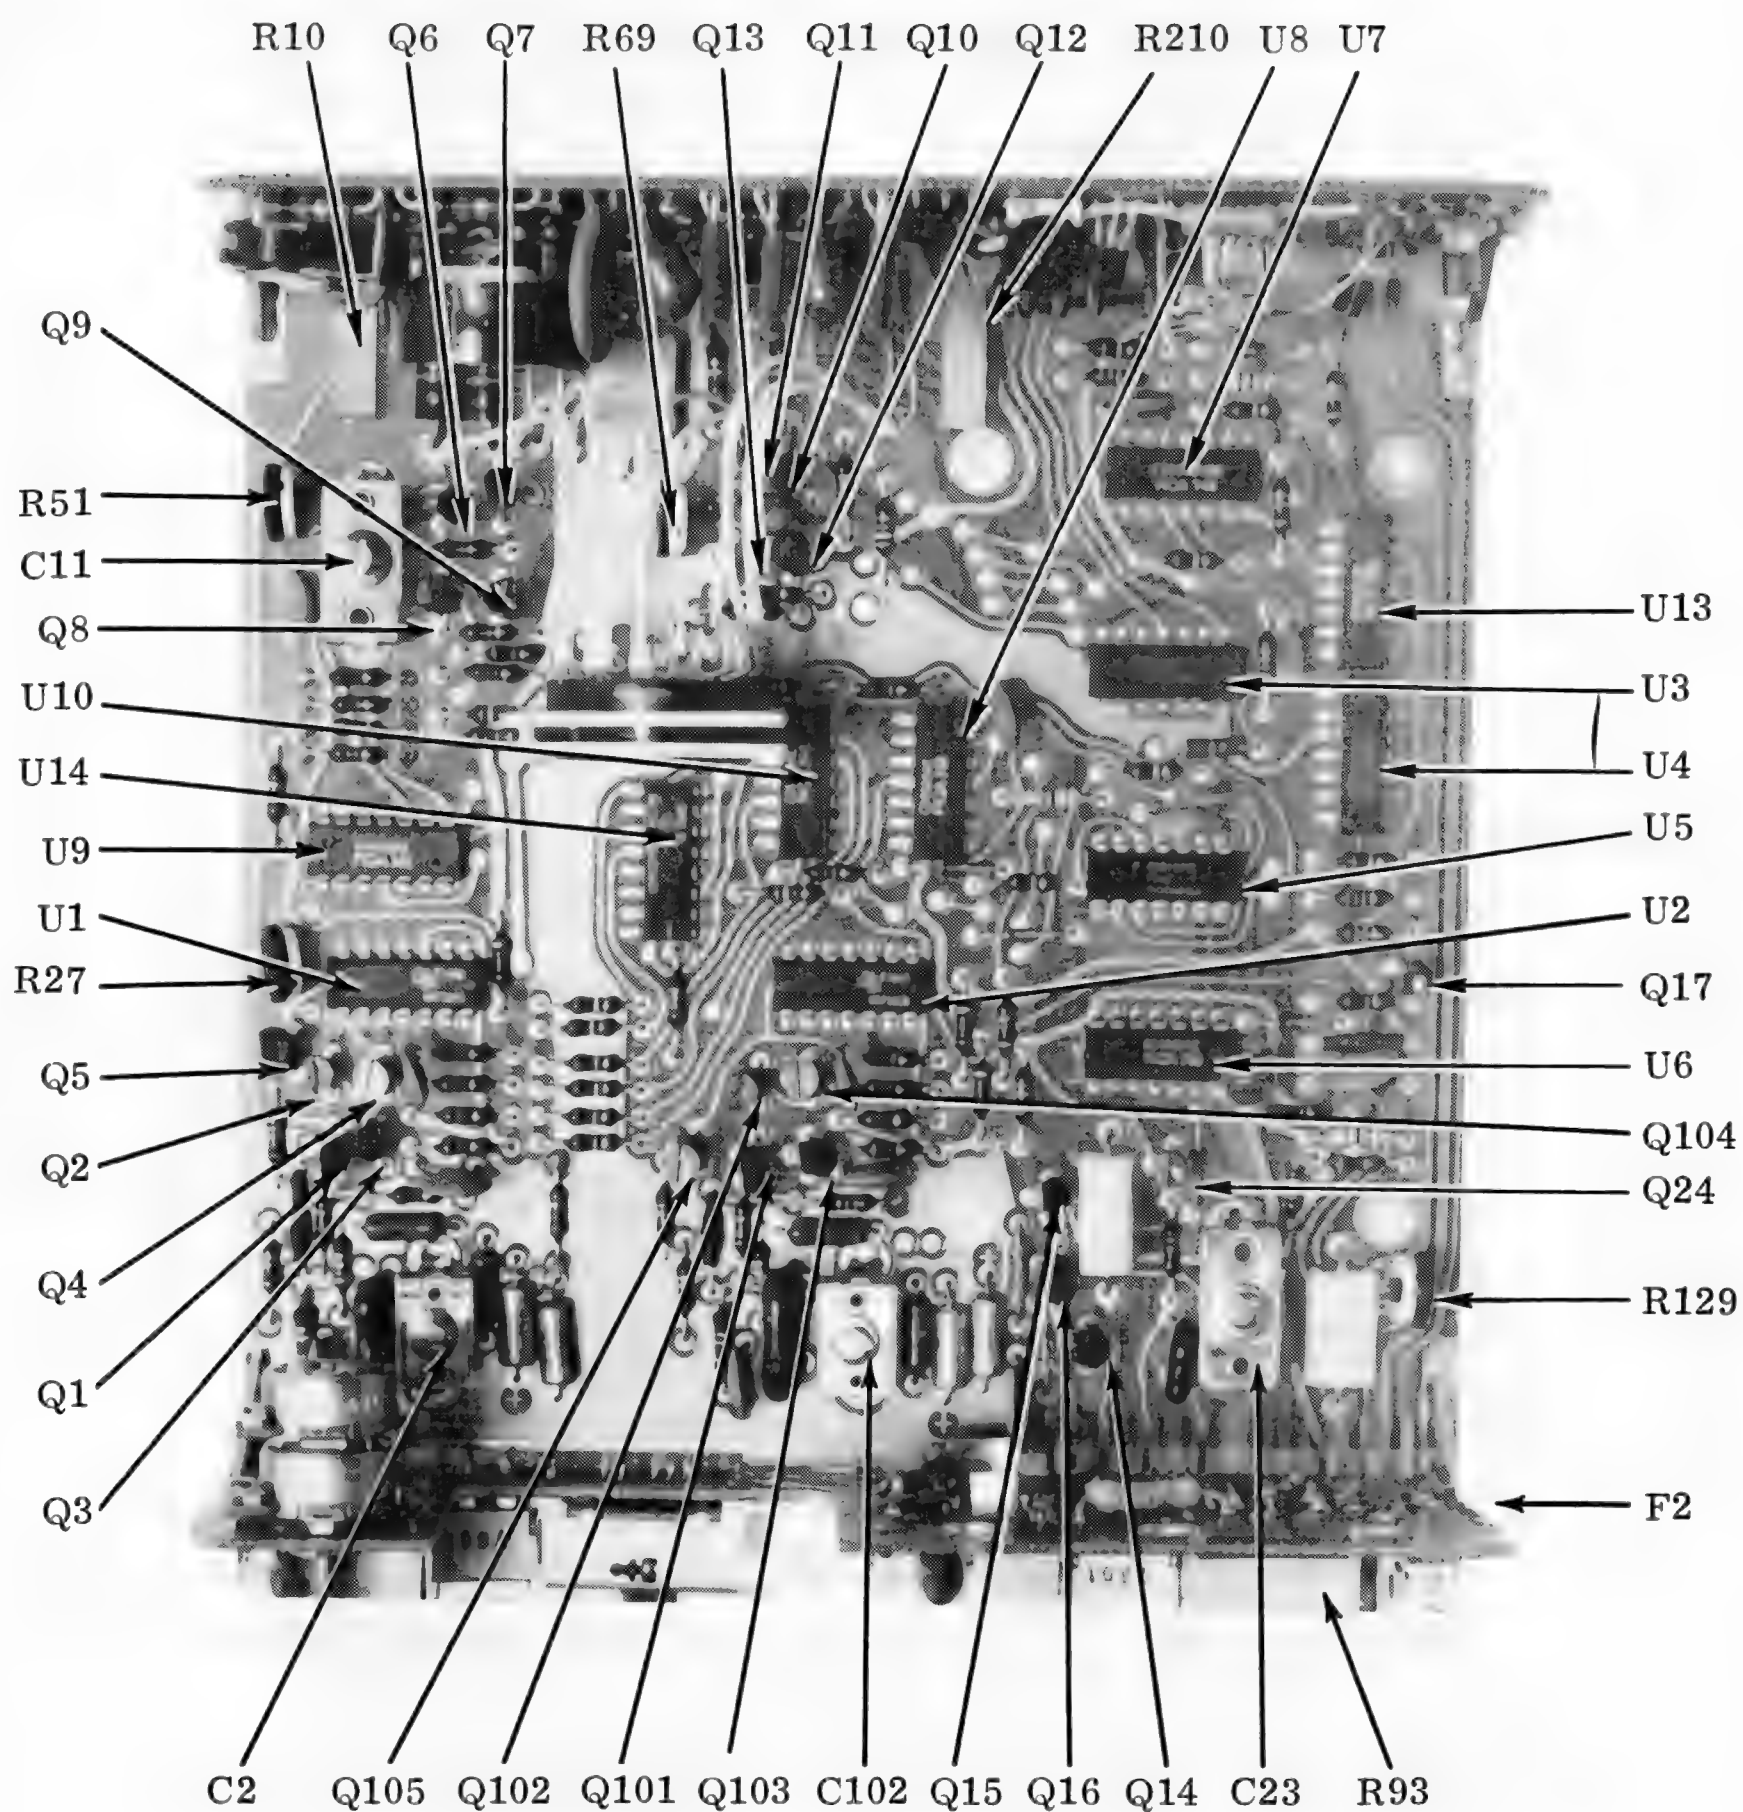

Figure 4-2. Component Location - Main Board
- b. Center trace on screen and adjust R129 (figure 4-2) so that calibrator output is exactly 1 VP-P.
- a. Using AC vertical input coupling and internal triggered mode, connect calibrator output to CH2 vertical input of Miniscope. Set vertical V/DIV controls to .5V/DIV. Center trace vertically. Set vernier to CAL (CW).
- b. Adjust R51 (figure 4-2) so that trace amplitude is exactly two graticule divisions high.
- d. Repeat step 4-12b using R27 (figure 4-2).
- a. Using CH2 AC vertical input coupling and internal triggered mode, connect a 100 KHz square wave to vertical input. Set vertical V/DIV to .5V/DIV. Set vernier to CAL (CW). Set Horizontal (Time/DIV) switches to 5  $\mu$ s/DIV.
- b. Adjust C11 (figure 4-2) until truest display of a square wave is obtained.
- b. Adjust C202 (figure 4-2) until the truest display of a square wave two divisions high is obtained.
- d. Repeat 4-14b using C2 (figure 4-2).
- a. Use internal trigger mode and AC vertical coupling. Set time/DIV to  $5 \mu\text{s}/\text{DIV}$  with time vernier in CAL (CW) position.
- c. Adjust R69 (figure 4-2) and horizontal position control so that trace is approximately  $1/32$  inch longer than five divisions of graticule in horizontal direction.
- d. Adjust R93 (figure 4-2) and horizontal position control for best coincidence of vertical lines of square wave trace with vertical lines of graticule.
- b. Adjust C23 (figure 4-2) and horizontal position control for best coincidence of vertical lines of square wave trace with vertical lines of graticule.
5-11. If the power indicator does not light and there is no trace when operating from batteries alone, but there is an erratic appearing trace when operating from the charger/transformer then the problem is very likely a blown fuse. The fuse (F2 - figure 4-2), if not defective, will measure less than 0.1 ohm. If after replacement the fuse blows again, then the problem is in the +5.75 VDC regulator between the batteries and the DC/DC converter. The +5.75 VDC regulator should use less than 50 mACD unloaded. The regulator can be unloaded by cutting the printed circuit line between it and the DC/DC converter. Two extra holes have been provided in the printed circuit for a jumper to repair the cut. If the regulator is functioning properly, then check the +5 VDC line on the main board and the rectifiers and loads on the secondaries of the DC/DC converter. Also check the switching transistors on the input of the DC/DC converter. If these tests do not uncover a fault, the DC/DC converter transformer is probably defective.
5-17. With the vertical input grounded, if the trace or spot is visible when the vertical deflection plates (pins 9 & 11) are shorted together and disappears when the short is removed, the vertical amplifier is in a state of DC unbalance. To determine where the problem is measure the differential voltage at the output of the second amplifier (pins 7 and 8 of U1 - figure 4-2). If it can be adjusted to  $\pm 2$  VDC with the front panel vertical position control, then the problem is
in the deflection amplifier output stage. If the voltage cannot be adjusted as specified, measure the voltage at the output of the first amplifier (collector of Q3 - figure 4-2). If it is within 0.01 VDC of ground, then the problem is in the second amplifier. If it is not as specified, then the problem is in the first amplifier. If the problem is incorrect gain use signal tracing techniques to locate the problem.
5-21. If a problem exists in one or more positions of the Trigger Mode switch but not all, then the switch itself or associated networks are at fault. If a problem exists in all positions, then the fault lies with either the source follower (Q24 - figure 4-2), the Schmitt Trigger (U4 - figure 4-2) or slope selector (U14). Check the output of the source follower. If it exhibits approximately unity gain, the problem is in the trigger or slope selector. If the source follower does not have unity gain then it is the problem.
5-23. If there is no horizontal sweep and the time base trigger is not at fault, then the time base generator is at fault. If the sweep works in some settings and not in others then the switching or the associated networks are at fault. If the sweep does not work at all, the constant current source can be tested by disconnecting the output collector lead (Q14 - figure 4-2) and measuring the current to ground. The gates in the astable multivibrator (U5 - figure 4-2), transmission gate (U6 - figure 4-2) and the flip-flop (U3 - figure 4-2) can be checked by examining their input versus output relationships.